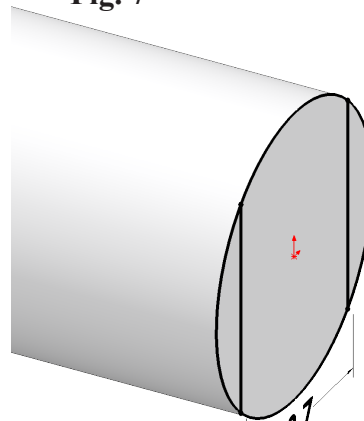

Fig. 9
Step 7. Click **Smart Dimension** (S) on the Sketch toolbar.
Step 8. Add dimension, **Fig. 9**.